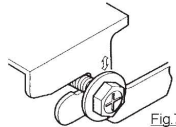

Fig.7
E. Lift the unit and slide forward unit the dent. (Refer to Fig.7)